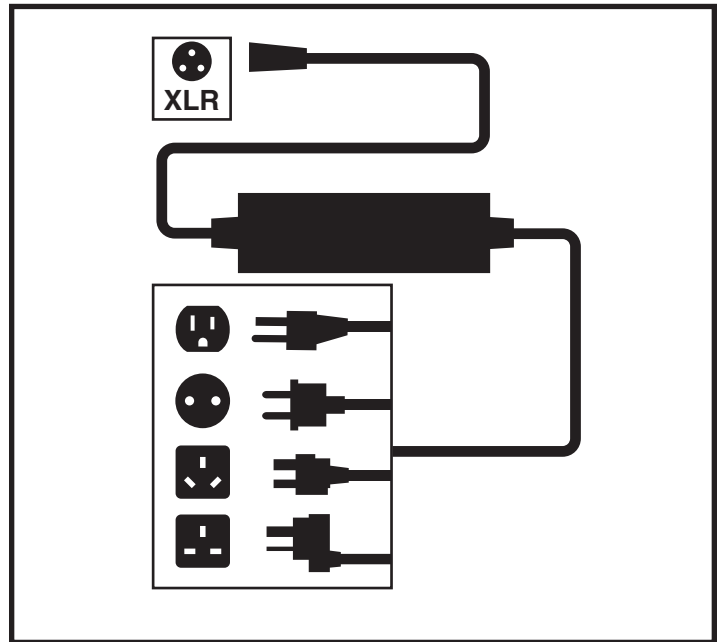

Figure 12. Battery Charging
3. Plug the off-board charger into the off-board charger/programming socket on the controller. See figure 12.